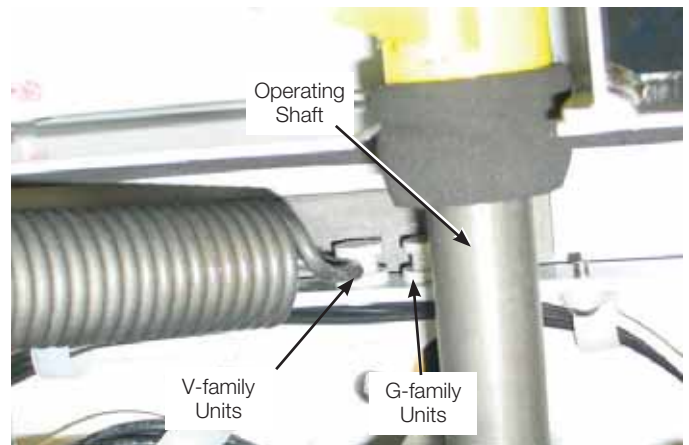

Figure 17.
- j. Ensure closing spring is hooked on the correct pin. Refer to Figure 17.